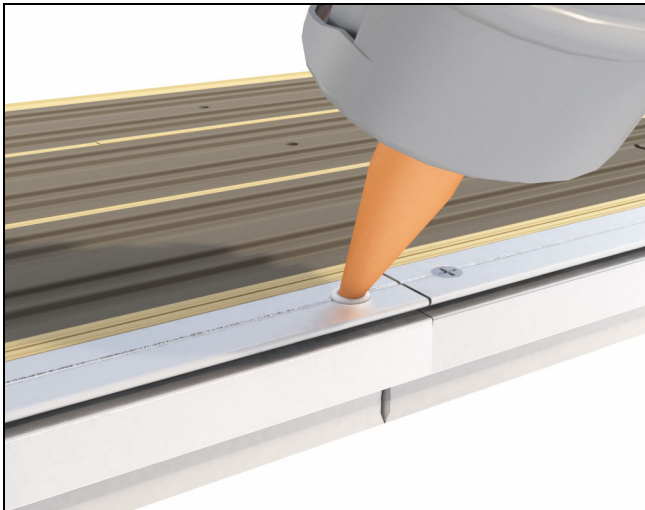

Figure 10
7. Inject sealant into the open hole on the frame cladding splice key until squeeze out occurs. Insert #7 x 5/8" flat head screw into hole. See figure 10.